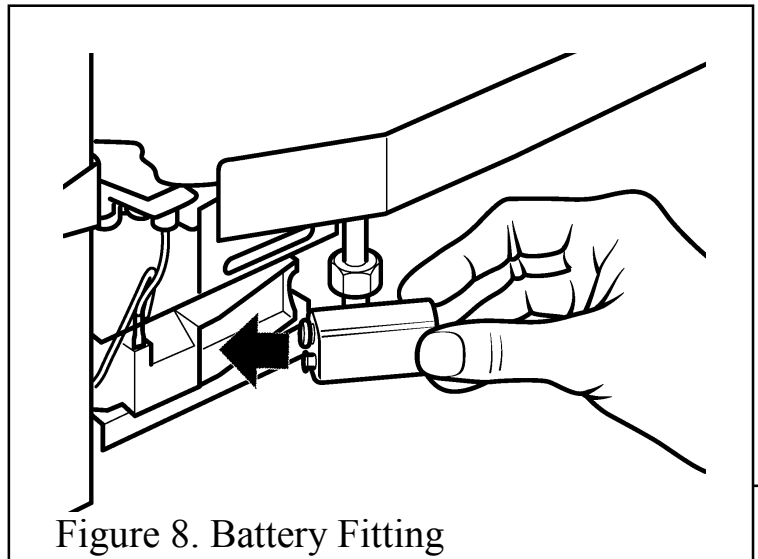

Figure 8. Battery Fitting
- Fit the battery to the ignition block located below the burner tray at the left side (see figure 8). The positive terminal (+) is to the bottom as you insert.